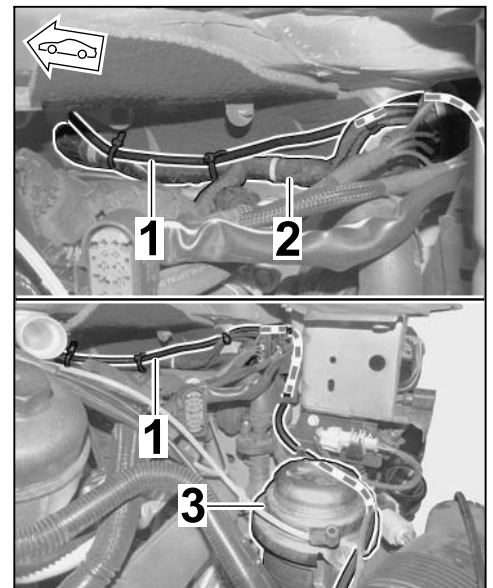

Figure 15
3.5 Route wire harness for sports exhaust system ⇒ Figure 15 -1- in the engine compartment at the right and secure to the standard engine wire harness with a tie-wrap.